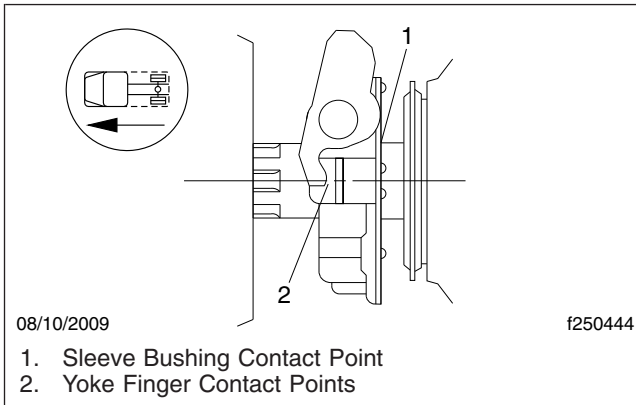

Fig. 3, Grease the Contact Points
4. Wipe off excess grease and apply to both the yoke finger and sleeve bushing contact points. See Fig. 3.
4. Wipe off excess grease, and apply it to both the yoke finger and sleeve bushing contact points. See **Fig. 3**.